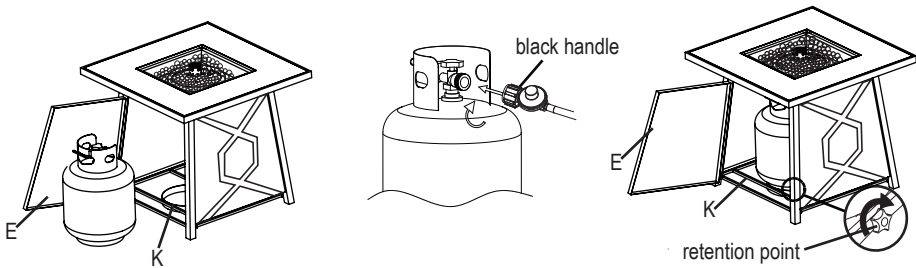

Figure 10
10. Open the door panel (E). Place the gas cylinder into the gas cylinder support (K) and connect the regulator by turning the black handle clockwise to tighten. To remove the regulator, turn the black handle counter-clockwise. Secure the gas cylinder by tightening clockwise the retention point found on gas cylinder support (K), (see Figure 10), so that the gas cylinder cannot move from side to side or fall down. The knob on the control panel is turned all the way to the "OFF" position when the fire pit in NOT in use.